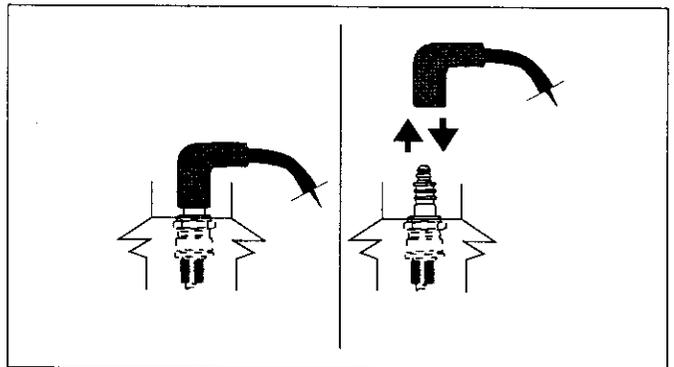

Figure 2. Disconnecting/Connecting Spark Plug
- Disconnect spark plug wire and keep it away from spark plug. See Figures 2 and 3.